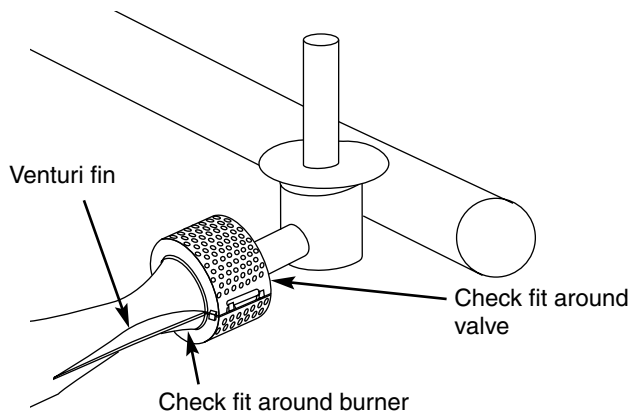

Figure 19
- i) Reinstall the Spider Stopper Guards. Slightly rotate the Spider Stopper Guards so that the seams are in line with the Venturi fins. There should be no gaps in the seams or in the fit around the burners and valves. Figure 19.